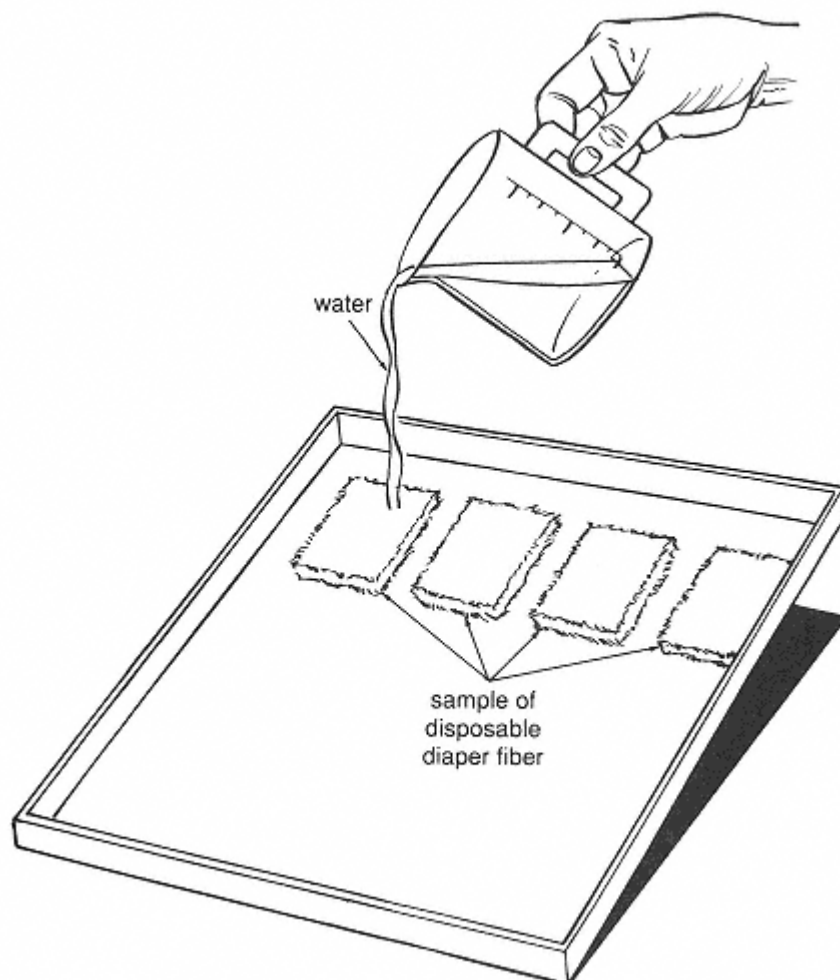

Figure 24.2
2. Some disposable diapers are advertised as being designed for boys or for girls. Is there a difference in the absorbency of the fiber in different areas of these diapers? Remove the lining and plastic outer covering from two diapers, one designed for boys and one designed for girls. Cut the inner fiber of each diaper into four equal sections. Lay the pieces of fiber from one diaper in a line on a cookie sheet. Do the same with the other diaper fibers on another cookie sheet. Raise both cookie sheets at one end by lemon-size clumps of modeling clay. Use a measuring cup to add distilled water evenly to the surface of each piece of fiber (see Figure 24.2). Measure and record the amount of water that each piece absorbs. Repeat this procedure using different brands of diapers.